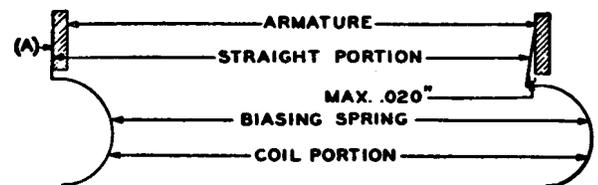

Fig. 103 - Allowable Variation in Biasing Spring Position
- 1.04 Biasing Spring Position** - Fig. 103 (A): Straight portion of biasing spring shall rest approximately flat against armature. Satisfactory if top end rests on armature and clearance, if any, at bottom edge of armature is max. $.020''$. Coil portion of spring shall clear armature and soldering lug.